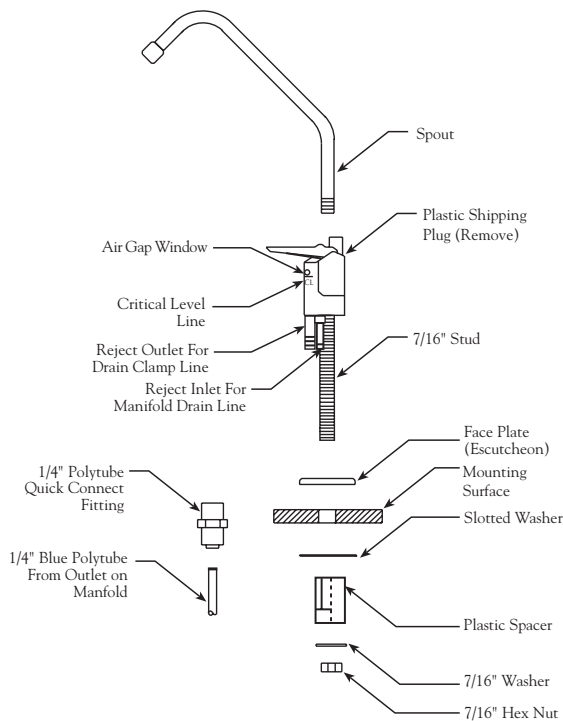

Figure 2
### 3. Assemble and attach the Faucet (Refer to Fig. 2 above.)
- Check the Air Gap Window on the Dispensing Faucet to be sure that the drain water is flowing. (Refer to Figure 2, page 6.) The R.O. System is now making water.